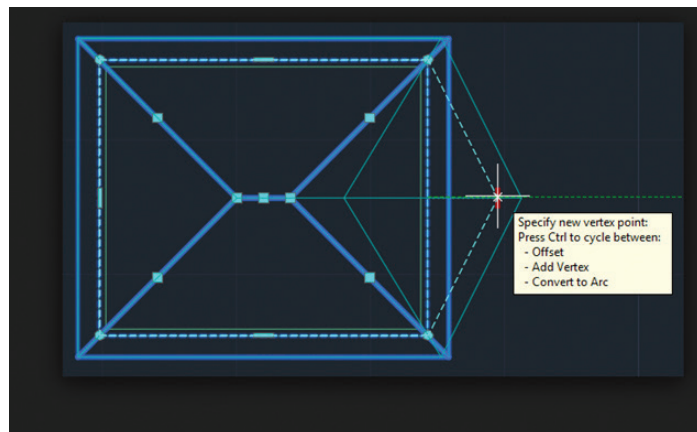

Figure 3: Roof grip edit
- You can drag the grips that are displayed on a selected slab or roof slab to reorient it, resize it, or change other physical characteristics (see Figure 3).